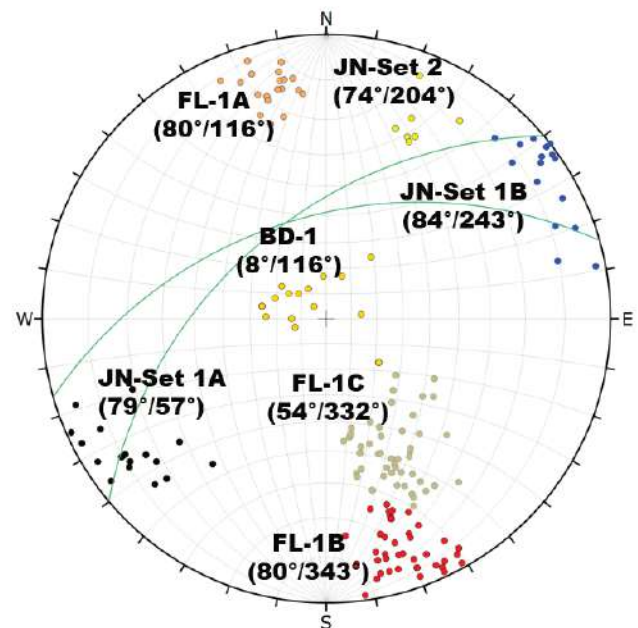

Figure 2. Structural interpretations of the southeast region of the open pit mine (Kabuya & Henriquez 2017)
With two different material types to be retained, the initial dam design used a "drained stack" concept, as generalised in the figure 2 schematic. This concept aimed to progressively stack the sands behind a starter dam, with the slimes retained behind the sand stack, and the starter dam raised on top of the sands using upstream-style construction.
**Orientations of discontinuities** – Structural data was collected from photogrammetry mapping of the highwall. Figure 2 presents a stereonet representative of the discontinuity sets and orientations. Discontinuities along foliation in the region of the failure were typically moderately to steeply dipping, with strike near-parallel to the northwest-facing pit wall (FL-1B, FL-1C, and FL-1A). Cross joints oriented orthogonally to the foliation were also present (JN Set 1A/1B, BD-1).